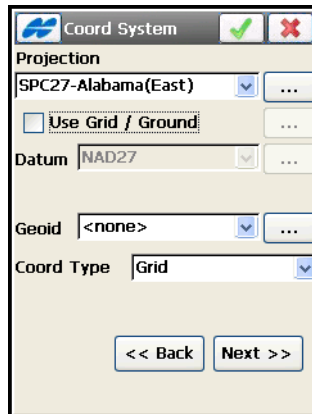

Figure 4-20. Coordinate System
- **Next** – opens the *Coordinate System* screen (Figure 4-20 on page 4-19).
On the **Coord System** screen (Figure 4-20 on page 4-19) select the coordinate type for the data in the file exported. This screen first displays information about the coordinate system in the job whose data is exported.